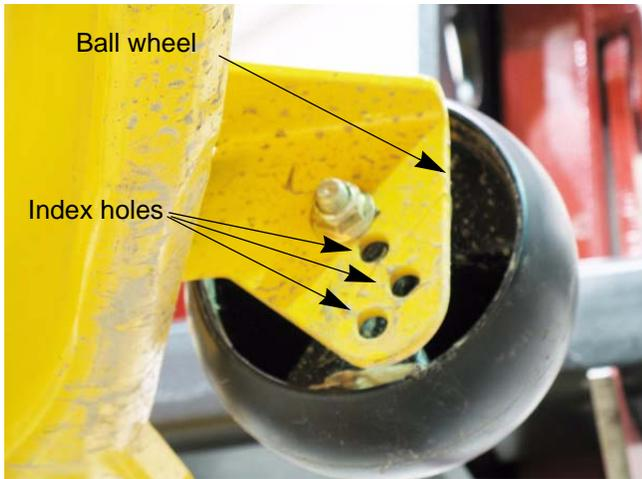

Figure 8.32
4. Reposition the wheel to align with the one of four index holes that places the wheel 1/4" to 1/2" above the ground. See Figure 8.32.